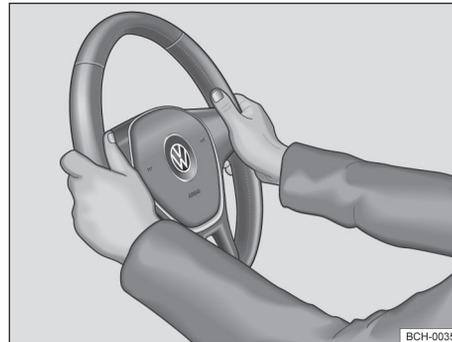

Fig. 61 On the steering wheel: 9 o'clock and 3 o'clock positions.
- Adjust the steering wheel position in order to be able to hold it by its outer rim in 9 o'clock and 3 o'clock positions → Fig. 61 with both hands and slightly flexed arms.
- While driving, always keep both hands on the rim of the steering wheel, at the *at the 9 o'clock and 3 o'clock positions* → Fig. 61, to reduce the risk of injury in case the driver front airbag is deployed.